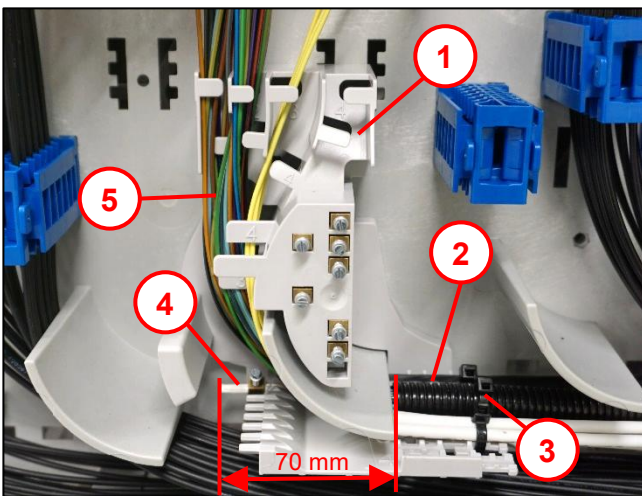

Fig. 34
Regarding mounting on the cable organiser access on the door see Fig. 34.
- Strip the core of fibre cable (3) to 70 mm and guide under the clamping yoke (1).
**Note:** Alternative strain relief on the door side, see Fig. 34.
- Protect the bundled loose tube fibres (9) in the area of the clamping yokes with a spiral tube (10).
- Strip the bundled loose tube fibres (4) as per the specification.
1. Strip the protective tubes (7).